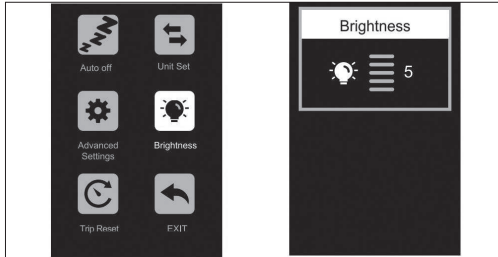

Figure 4-4
- Brightness:** If you Enter this setting, you can adjust the meter backlight brightness, as shown in the (Figure 4-4).